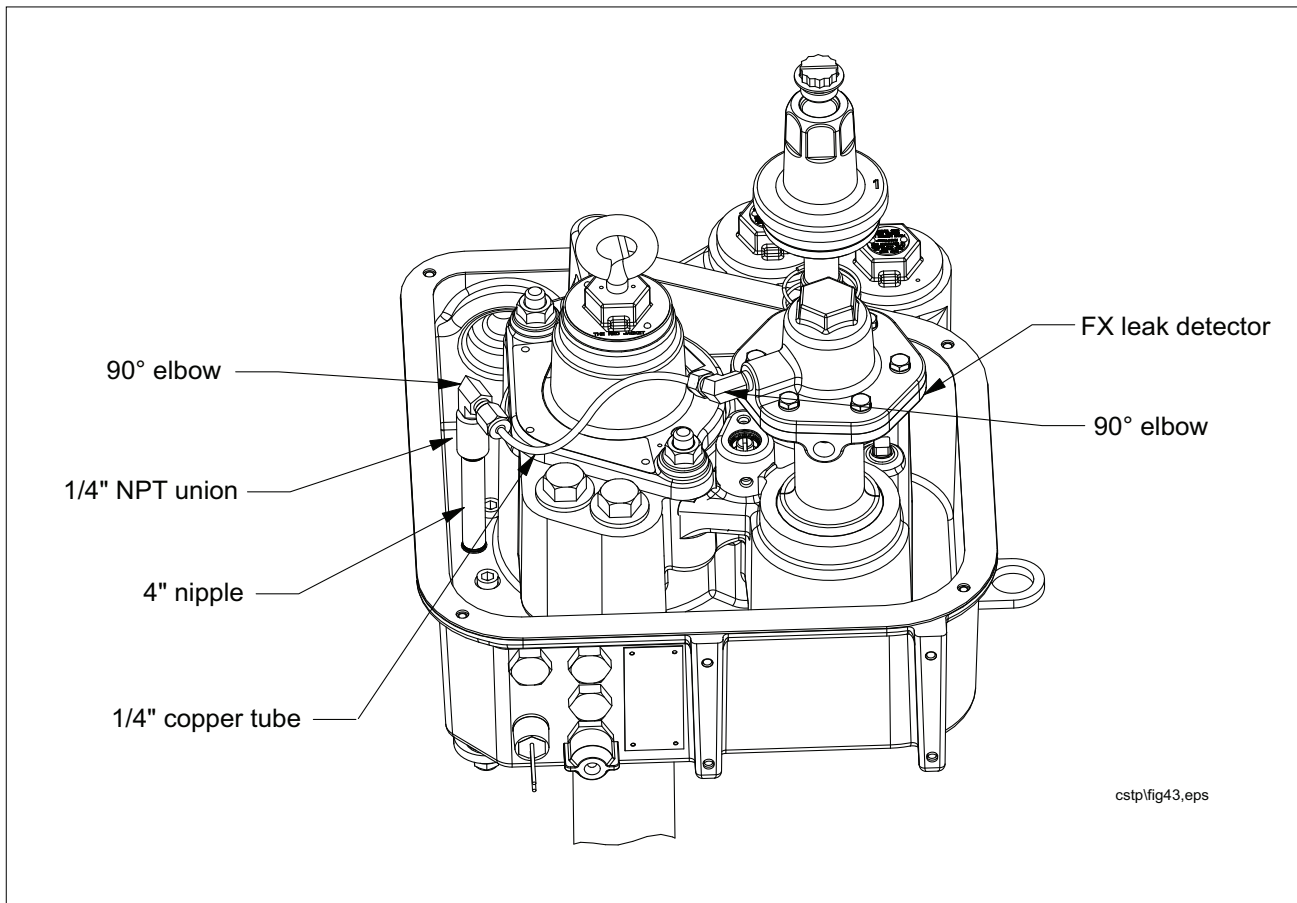

Figure 47. Installing Mechanical Line Leak Detector
11. Replace 1/4" plug, for the tank connection, on the MLLD with the fitting (apply an adequate amount of fresh, UL classified for petroleum, non-setting thread sealant to the threads) from the kit and orient it as shown in Figure 47.
14. Connect the second fitting (apply an adequate amount of fresh, UL classified for petroleum, non-setting thread sealant to the threads) from the kit to the bushing and orient it as shown in Figure 47.
15. Connect the copper tubing to the fittings (bend the tube as needed) and tighten the nut on the fitting (see Figure 47).